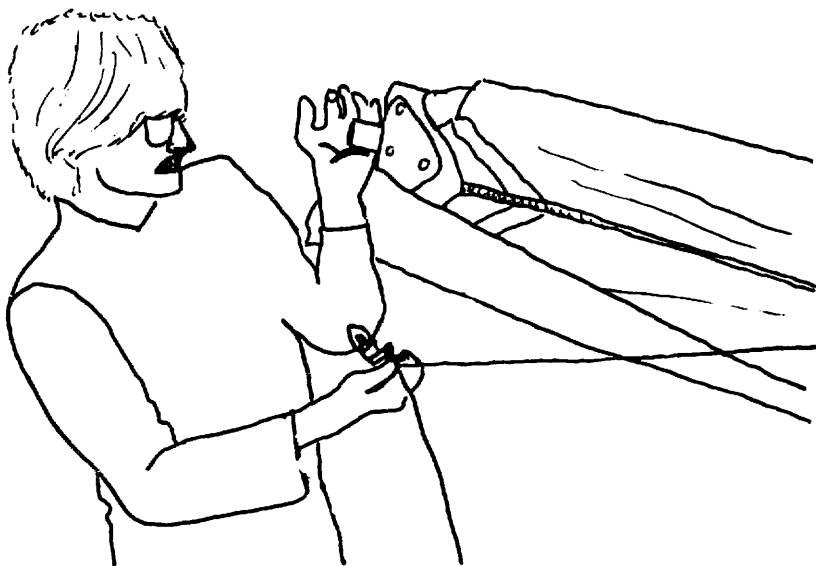

Fig 6
5) Flip the glider upright, holding the front wire to hold control bar forward, and rest the glider on the control bar. The glider should be nose into the wind if the wind is less than 10 mph, or at right angles to the wind if the wind is more than 10 mph.(fig 6 and 7)